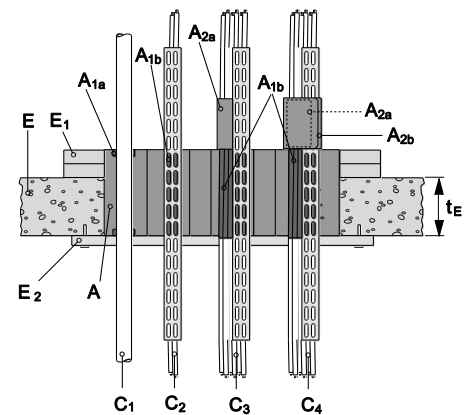

Figure 12: floor penetration
Penetrating services (C₁) with or without support tray within the seal, see Figure 12 of the certificate.
Penetrating cables (C₂, C₃, C₄) with or without support tray within the seal, see Figure 12 of the certificate.
<ul style="list-style-type: none"> – $\varnothing \leq 16$ mm, wall thickness ≥ 1 mm, arranged linear, with or without cables, with or without cable supports, minimum distance to each other = 0 mm – Penetrating services (C₁) with or without support tray within the seal, see Figure 12 of the certificate
<ul style="list-style-type: none"> – Hilti Firestop Blocks CFS-BL (A) of thickness $t_A \geq 200$ mm, centered regarding the thickness of the floor (E); aperture framing or beading (E1) according to Annex C.1.2 of the certificate. – Waveguides $27.8 \text{ mm} \leq \varnothing \leq 59.9 \text{ mm}$ (C1) without support tray within the seal, see Figure 12 of the certificate. – Additional protection: 0.7 mm thick “Hilti Firestop Coating CFS-CT” over a length of 150 mm from the surface of the penetration seal on each side of the floor.
<ul style="list-style-type: none"> Hilti Firestop Blocks CFS-BL (A) of thickness $t_A \geq 200$ mm, flush with the soffit of the floor (E); aperture framing or beading (E₁) according to Annex C.1.2 of the certificate. Metal pipes (C₁), see Figure 12 of the certificate. Metal pipes with mineral wool insulation, minimum density 85 kg/m³, minimum thickness 20 mm (up to Ø 54 mm) or 30 mm (Ø > 54 mm) Additional insulation, mineral wool mat wrapped around the service, minimum density 85 kg/m³, minimum thickness 20 mm (up to Ø 54 mm) or 40 mm (Ø > 54 mm) over a length of 300 mm (up to Ø 54 mm) or 500 mm (Ø > 54 mm)
<ul style="list-style-type: none"> Hilti Firestop Blocks CFS-BL (A) of thickness $t_A \geq 200$ mm, flush with the soffit of the floor (E); aperture framing or beading (E₁) according to Annex C.1.2 of the certificate. Metal pipes (C₁), see Figure 12 of the certificate. Metal pipes with flexible elastomeric foam insulation, thickness 8.5 to 43 mm. Additional insulation, Armaflex mat wrapped around the service, thickness 19 mm, over a length of 300 mm or 500 mm
<ul style="list-style-type: none"> Hilti Firestop Blocks CFS-BL (A) of thickness $t_A \geq 200$ mm, flush with the soffit of the floor (E); aperture framing or beading (E₁) according to Annex C.1.2 of the certificate. Metal pipes (C₁), see Figure 12 of the certificate. Metal pipes with flexible elastomeric foam insulation, thickness 8.5 to 43 mm. Additional insulation, mineral wool mat wrapped around the service, thickness 30 mm, over a length of 500 mm
<ul style="list-style-type: none"> – Hilti Firestop Blocks CFS-BL (A) of thickness $t_A \geq 200$ mm, flush with the soffit of the floor (E); aperture framing or beading (E1) according to Annex C.1.2 of the certificate. – Metal pipes (C1), see Figure 12 of the certificate. – Metal pipes with flexible elastomeric foam insulation, thickness 8.5 to 43 mm. – Additional insulation, mineral wool mat wrapped around the service, minimum density 85 kg/m^3, minimum thickness 20 mm (up to $\varnothing 114$ mm) or 40 mm ($\varnothing > 114$ mm) over a length of 300 mm (up to $\varnothing 114$ mm) or 500 mm ($\varnothing > 114$ mm) – Additional protection, 2 layer of Hilti Firestop Putty Bandage CFS-B (A_2) is wrapped around the tube with insulation.